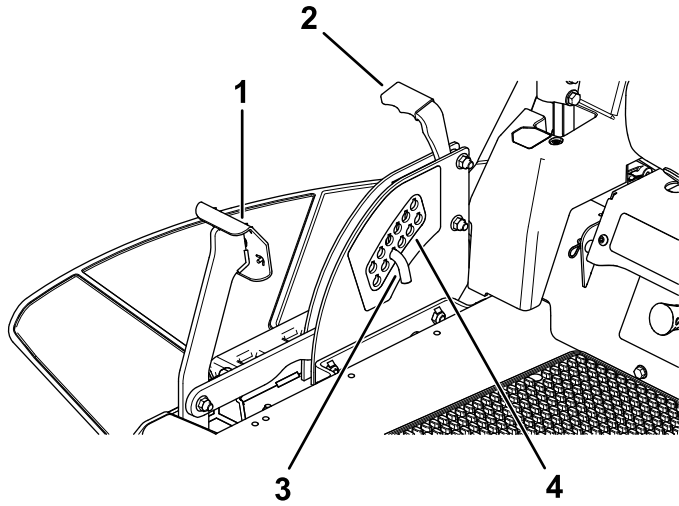

Figure 29
1. Push on the deck-lift pedal with your foot and raise the mower deck to the transport-lock position (also the 114 mm (4-1/2 inches) cutting height position) as shown in Figure 29.
2. To adjust, remove the pin from the height-of-cut bracket (Figure 29).
3. Select a hole in the height-of-cut system corresponding to the desired height of cut and insert the pin (Figure 29).